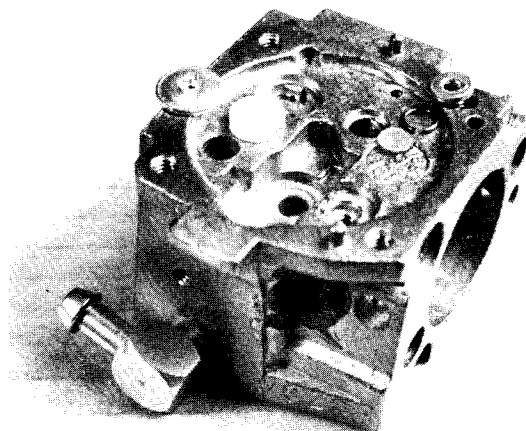

Fig. 65 — Plugs, Plastic Insert and Screen Removed
8. Remove retaining ring, screen and plastic insert, Fig. 65.